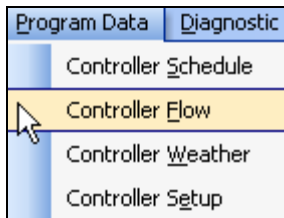

Figure 16.3.1D
1. In the toolbar at the top of the screen select **Program Data** then scroll down to **Controller Flow** and click on it (Figure 16.3.1D).